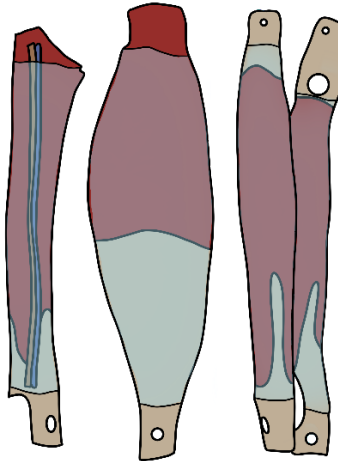

Figure 11. Fascia Adhered to Muscle
4. Place each muscle compartment with adhered fascia (**Figure 11**) on the system base unit.